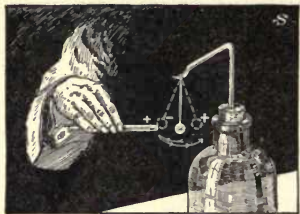

FIG. 194. The pith ball is first attracted to the excited glass rod and then repelled.
**How to detect electricity.** Electricity can be easily detected by the use of an instrument known as an electroscope. A simple electroscope is shown in Figure 194. It is made by bending a glass tube or rod, supporting it in the cork of a bottle, and attaching to the rod with a silk thread a small ball made of pith from the inside of a dry cornstalk. Make at least two electroscopes of this kind.
**Exercise 5.** (1) Rub a dry glass tube or rod with silk and present it to the pith ball. Two things will happen to the pith ball: at first it will be attracted; but presently the ball will fly away, and then the excited glass will repel the ball.
(2) Repeat the same test with the sealing wax rubbed with the flannel. The pith ball is affected in exactly the same way.